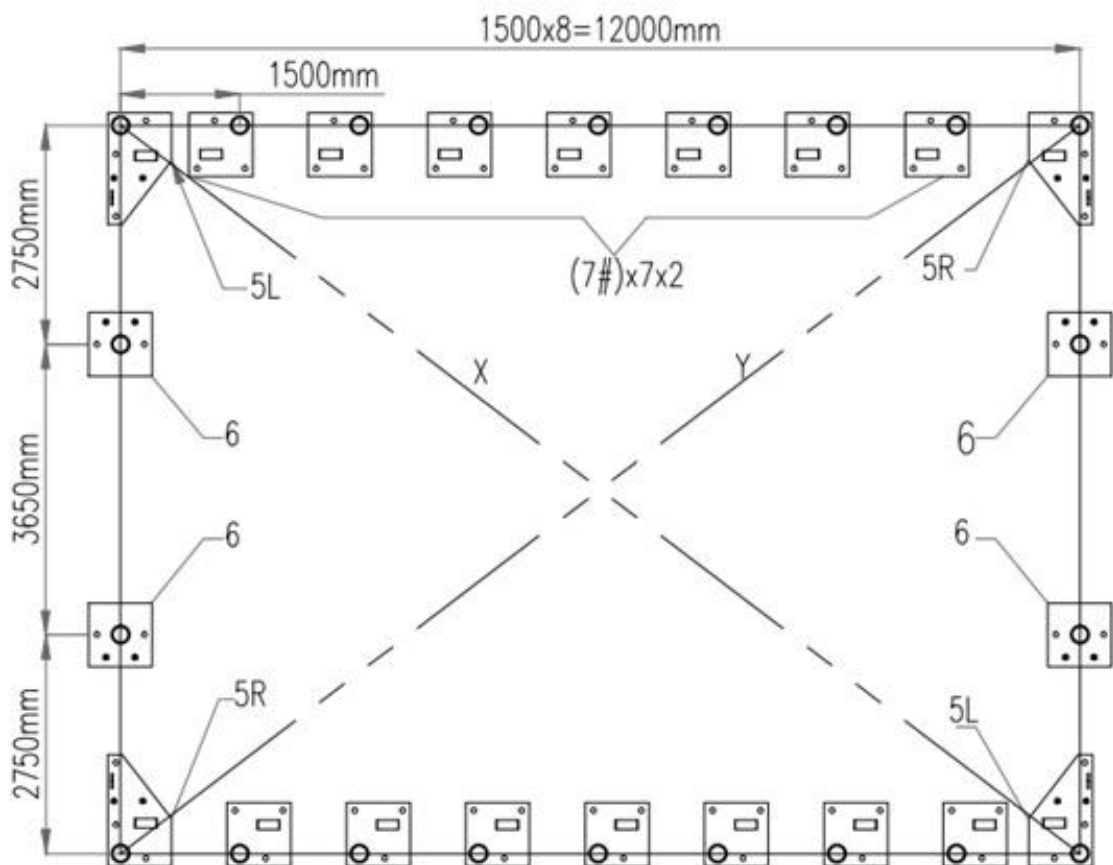

Figure 1
- Baseplates : all baseplates must be installed firmly with expansion bolts (#16) on this step (figure 1).
- (4) Baseplates (#5L,#5R)
- (14) Baseplates (#7)